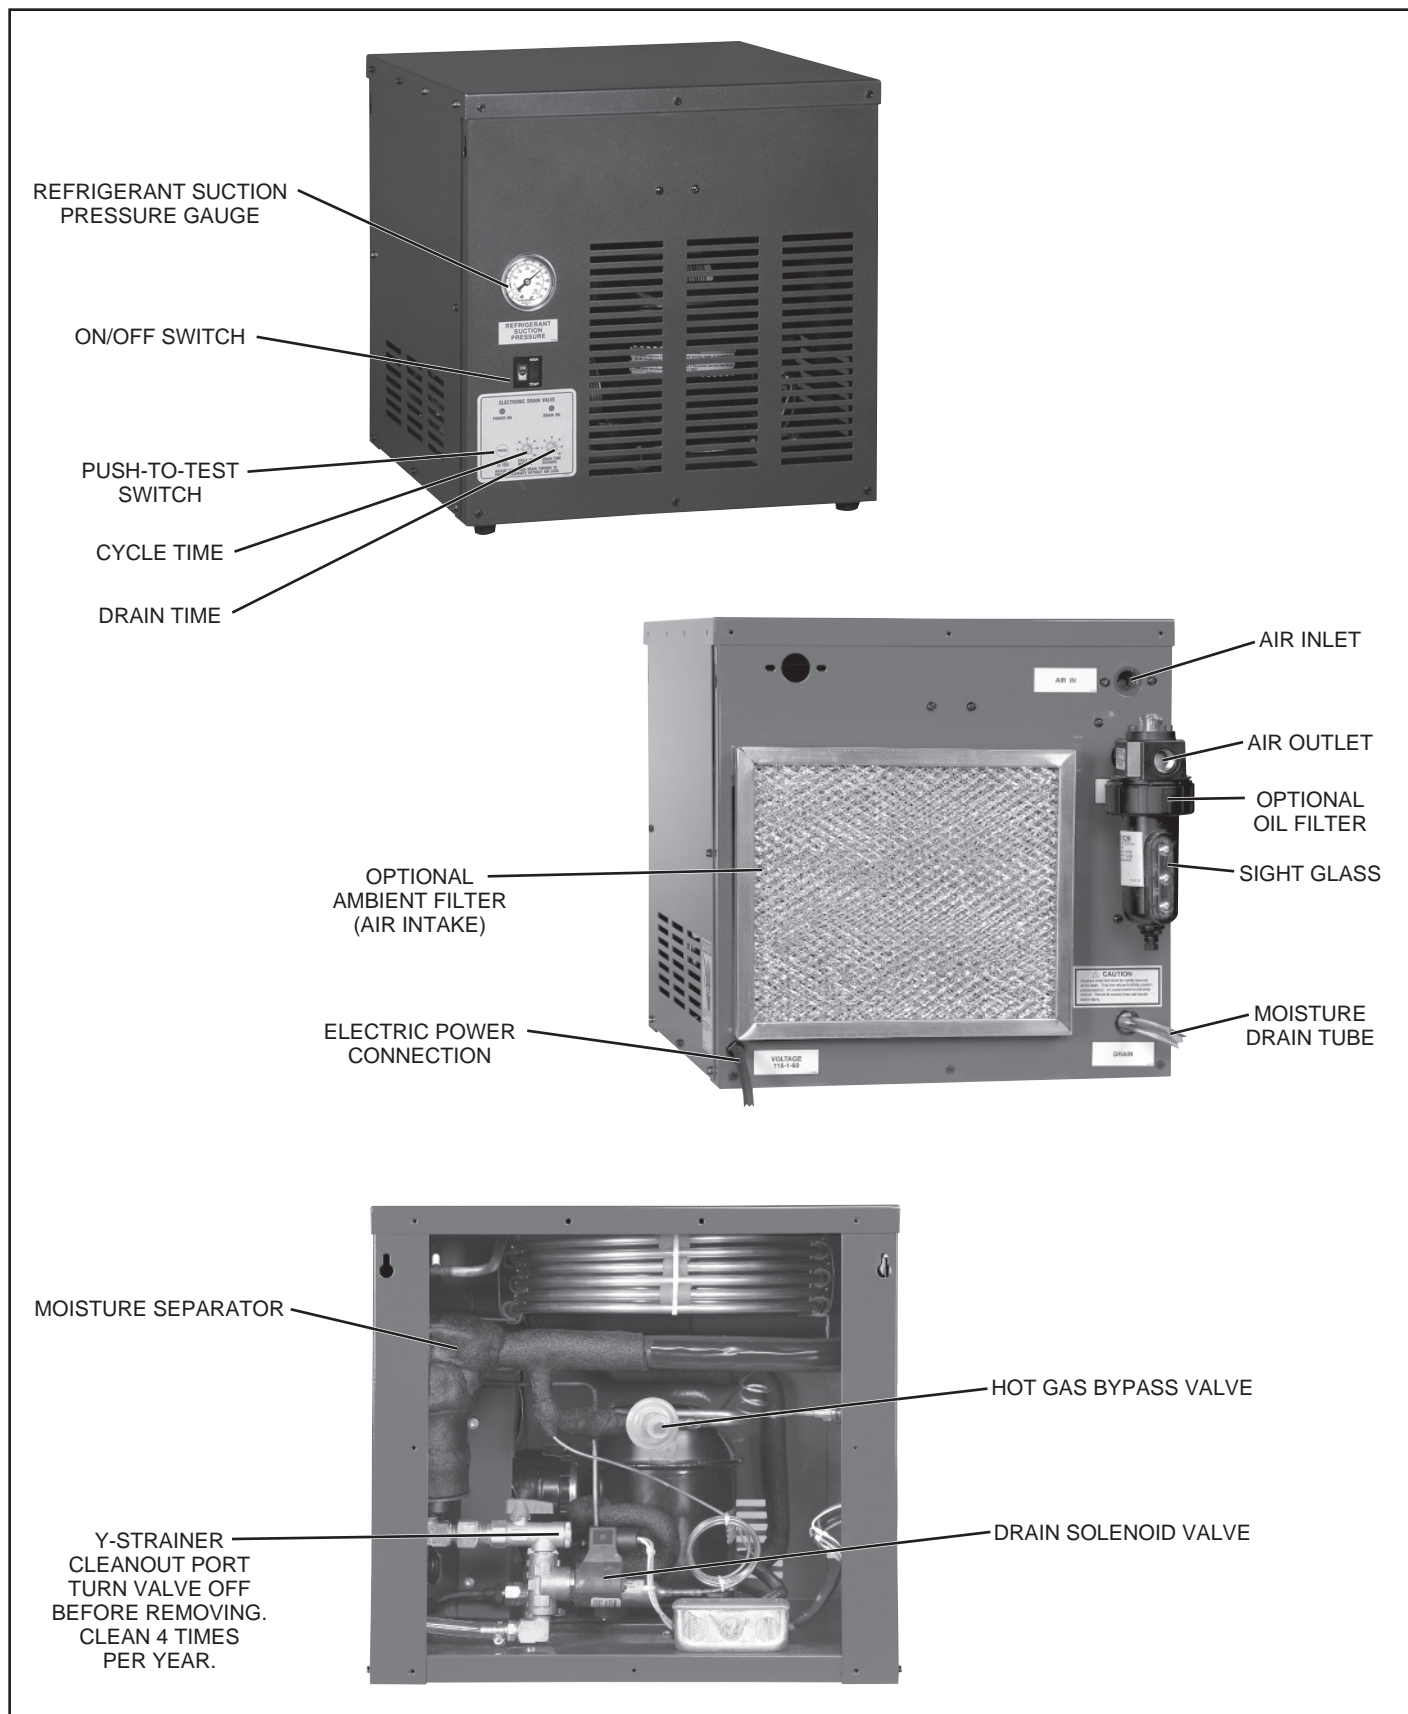

FIGURE 1 — MODEL CPXHT 25
7. The air dryer system has been tested and shipped with a full charge of oil and refrigerant. Inspect the suction pressure gauge located on the front of the unit (refer to Figures 1 – 3). While the unit is idle (not operating) the refrigerant suction pressure should be within the range of 90 to 130 PSIG.